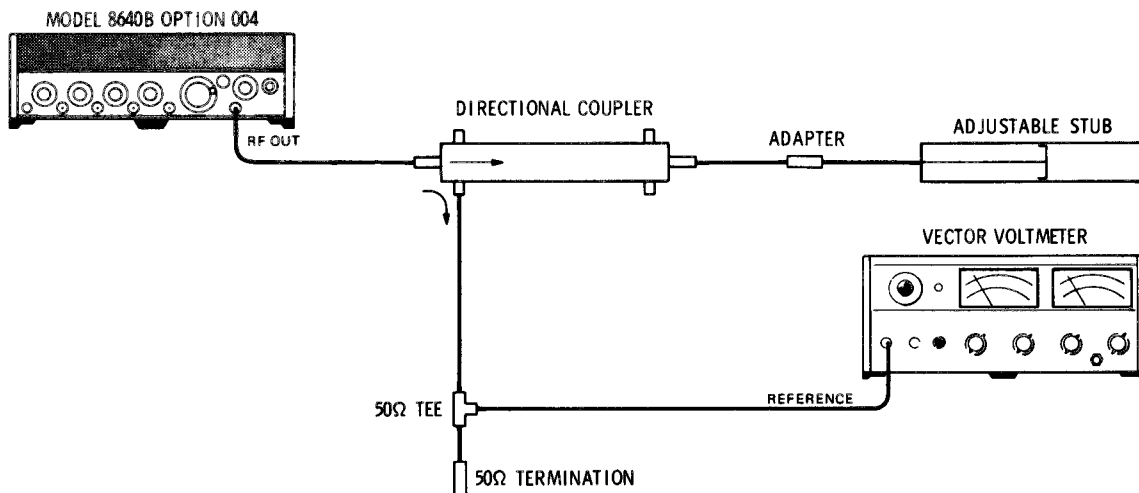

Figure 4-13. Output Impedance Test Setup (Signal Frequency)
1. Connect equipment as shown in Figure 4-13 after setting Signal Generator's controls as follows: